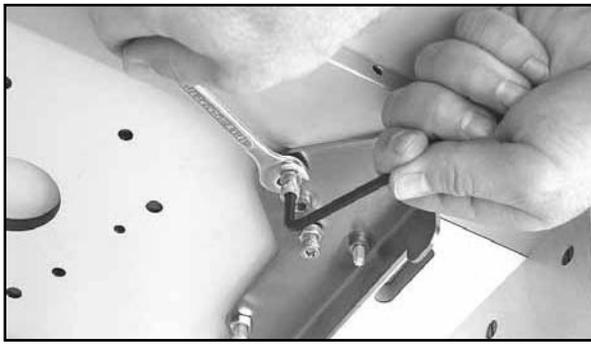

Fig. 13
14. Install the insert plate into the routertop. Adjust leveling screws until the plate is flush with routertop. To tighten, hold the socket head cap screw with the 3/16" hex wrench (31), and use your 7/16" open end wrench to tighten the nuts, as shown in **Fig 13**. Note: it may be necessary to fine tune the adjustment after installing router.